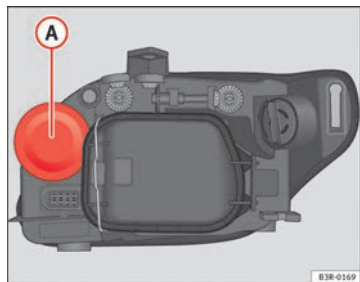

Fig. 220 Turn signal bulb
- Pull the rubber cap ⇒ Fig. 220 to remove it.